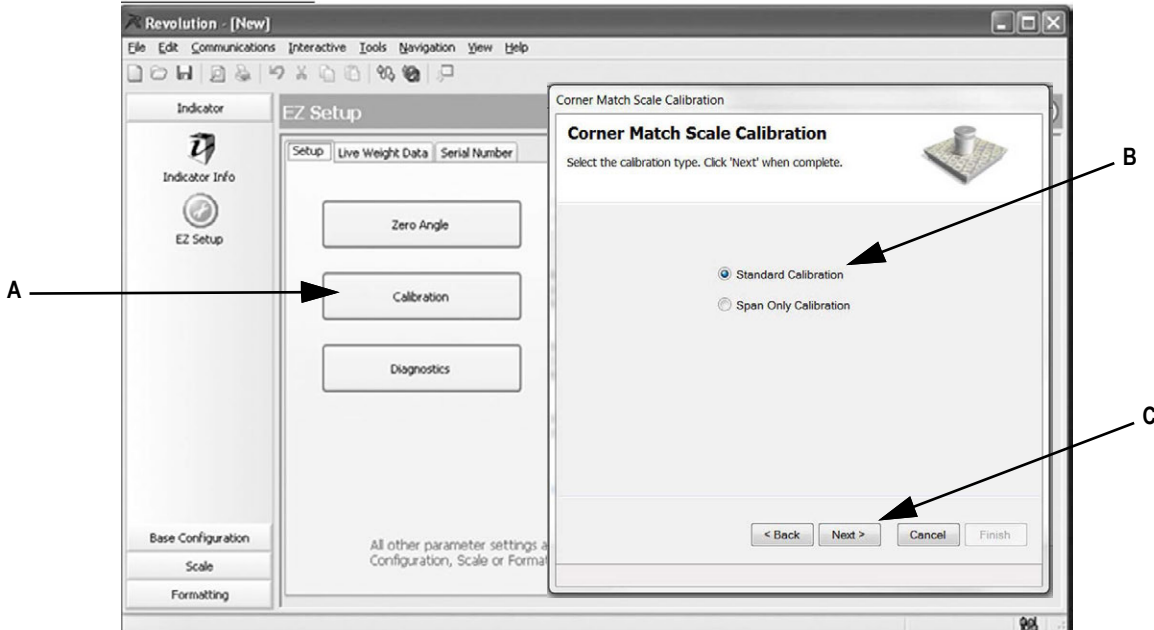

Figure 4-9. Enter Calibration
1. Select *Standard Calibration* (Figure 4-9 B)
2. Press **Next** (Figure 4-9 C).